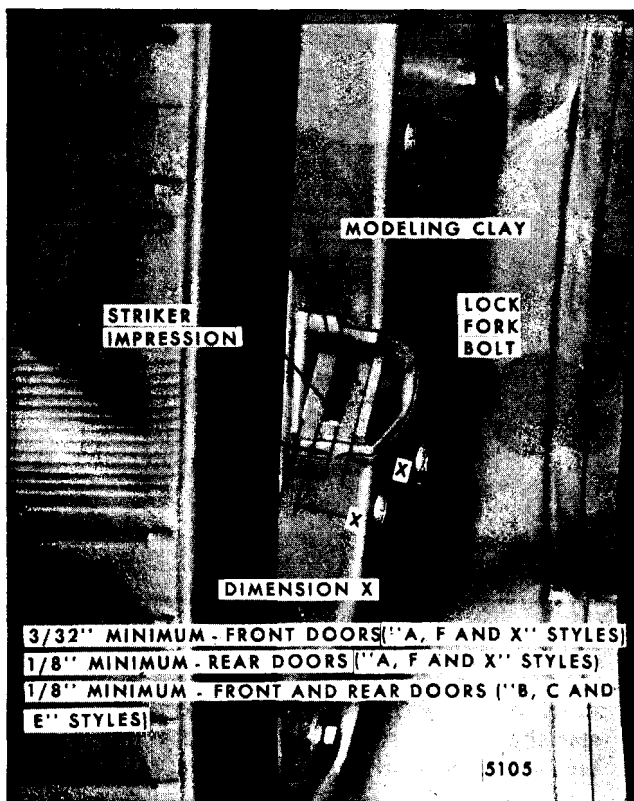

Fig. 6-23-Lock to Striker Engagement
- b. Apply modeling clay or body caulking compound to lock bolt opening as shown in Figure 6-23.
- c. Close door only as far as necessary for striker bolt to form an impression in clay or caulking compound as shown in Figure 6-23.
d. Measure striker impressions as follows: Striker head should be centered fore and aft as shown, however, some tolerances are allowed. In any alignment, it is important that minimum dimensions, as outlined in Figure 6-23 be strictly maintained. The following spacers are available as service parts and can be used individually or in combination to achieve the desired alignment.